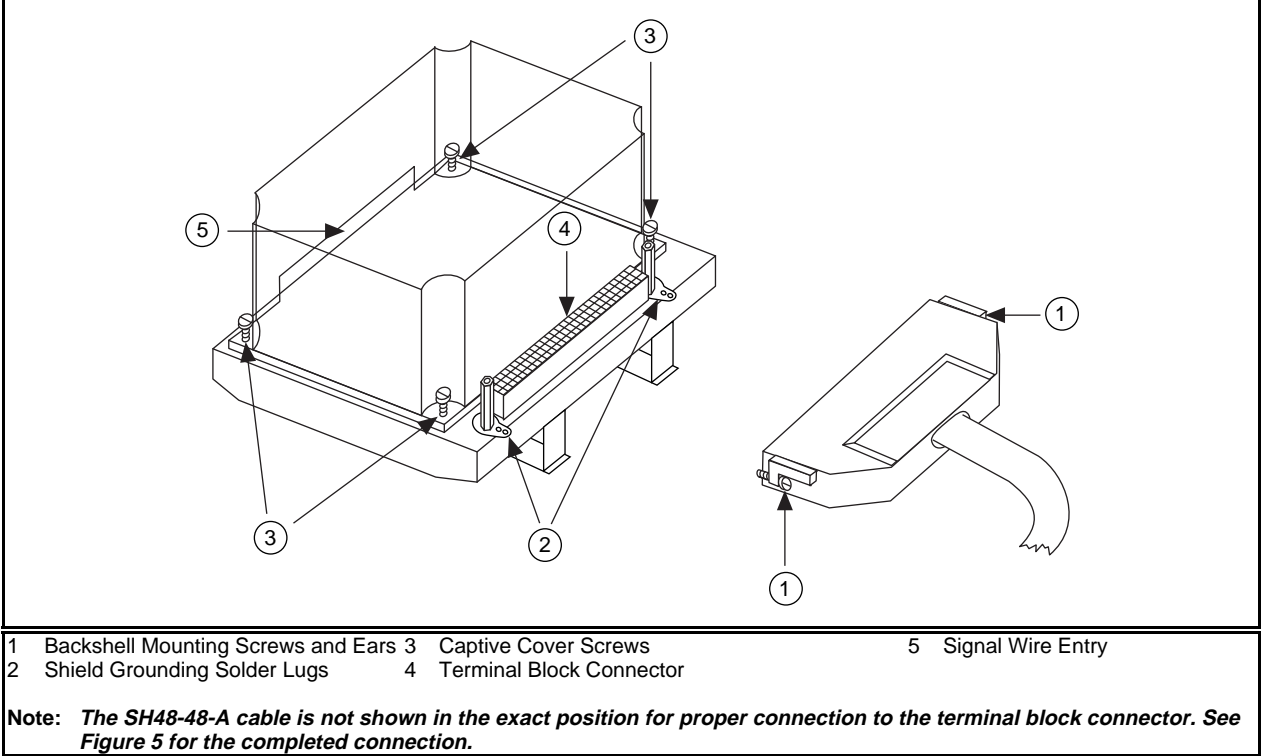

Figure 4. Connecting the SH48-48-A Cable to the TBX-1325 Terminal Block
13. Connect the other end of the cable assembly to your TBX-1325 terminal block connector and secure the SH48-48-A cable by tightening both backshell mounting screws. See Figure 4.
To connect your field signals to the TBX-1325 terminal block, refer to Figures 4 and 6 as you perform the following instructions: